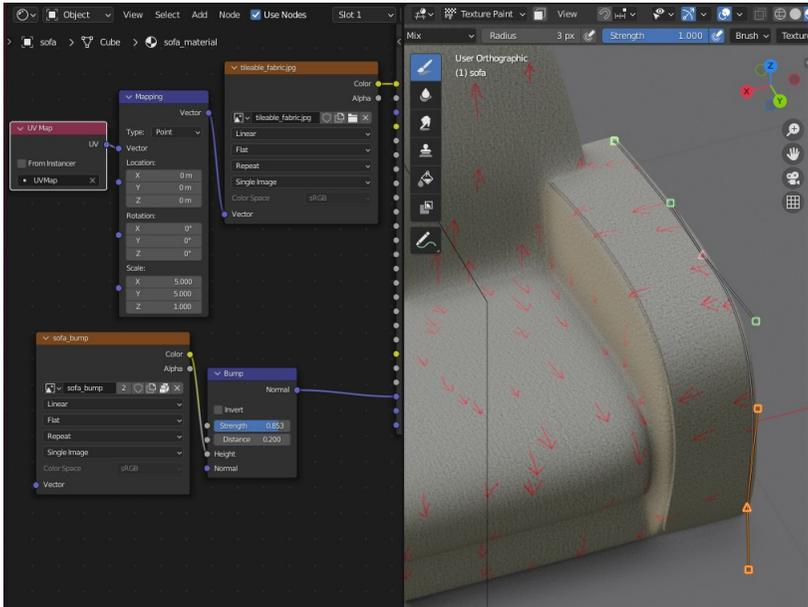

Figure 8-14 Scaling UV Maps for Different Textures in Shader Editor
use the default map but scale it up in the shader when it is being used by the base color texture. Figure 8-14 shows the node layout on the left and using the brush Stroke set to Curve for drawing piping on the normal image on the right. I mentioned using curve strokes in Chapter 5 when I introduced the basic workflow for sculpting.
19. Ensure that the sofa_bump image texture node is selected then change back to texture painting. If the sofa_bump texture was not selected as the target you will draw onto the wrong image. As I mentioned above, drawing using the brush stroke set to Curve will help with smooth curves like the piping on the seams. Also, switch to orthographic view using the button under the camera view button, visible on the right of Figure 8-14. This will prevent long lines drawn on the 3D object being distorted by perspective and resulting in tapered lines on the 2D texture.